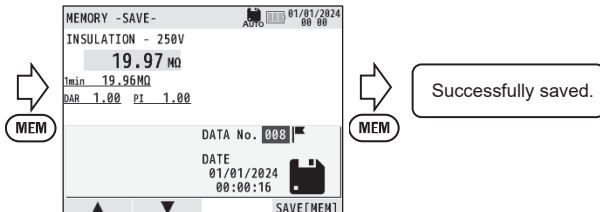

Fig. 15-2
- (2) Press the MEM switch (less than 1 sec.) and switch the screen to memory screen. (Fig. 15-2)
- (3) Set the DATA No. if necessary. (Fig. 15-2)